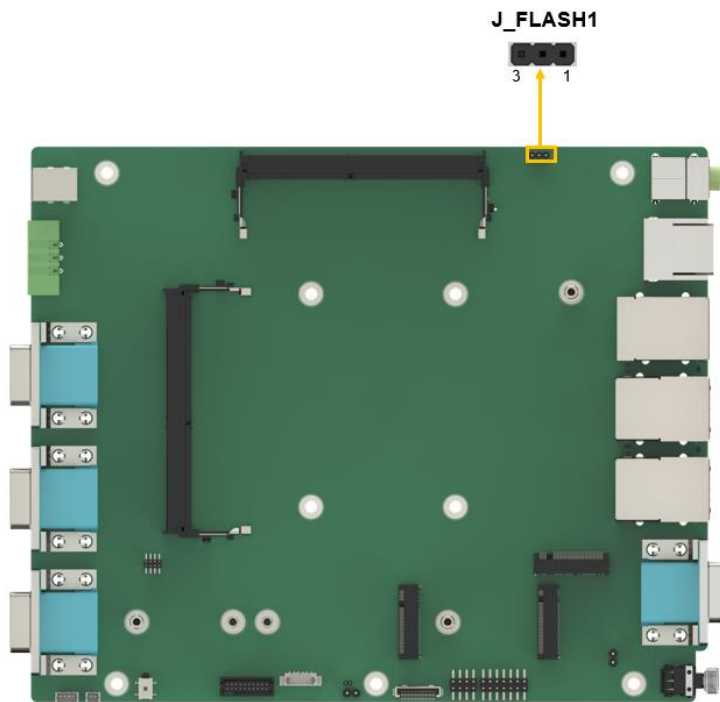

Figure 4-7: Flash Descriptor Override Setting Jumper Locations
- CN Location:** See **Figure 4-7**